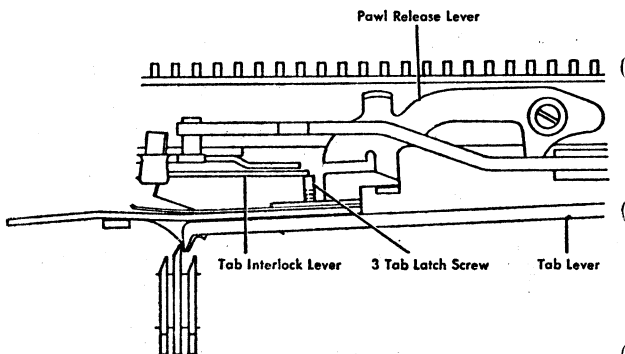

Figure 10. Tab Latch Screw Adjustment
3. **THE TAB LATCH ADJUSTING SCREW** is adjusted so that with the tab lever latched the tip of the tab lever will cover $1/2$ to $2/3$ of the exposed surface of a set tab stop (Figure 10).